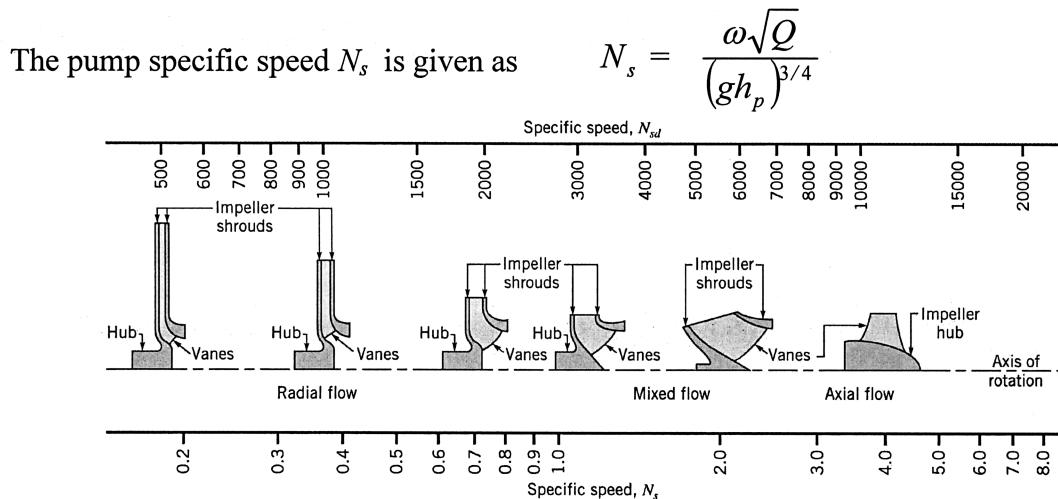

Figure 6
- (ii) If the rotational speed of the pump impeller is 2000 rpm, use Figure 6 to select the correct type of pump.